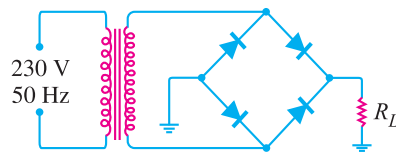

Fig. 6.77
8. In Fig. 6.77, the maximum secondary voltage is 136 V. Find (i) the d.c. load voltage (ii) peak inverse voltage (iii) output frequency. [(i) 86.6 V (ii) 136 V (iii) 100 Hz]